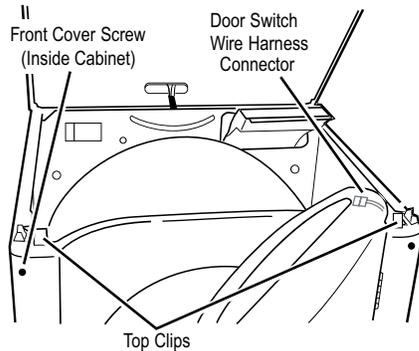

Figure 12. Slowly rotate top backwards and support.
- Push on the retaining clips located under top of dryer on the right and left side using a flat object such as a putty knife. See Figure 12.
- Disconnect the door switch wire harness located on the right side. See Figure 12.